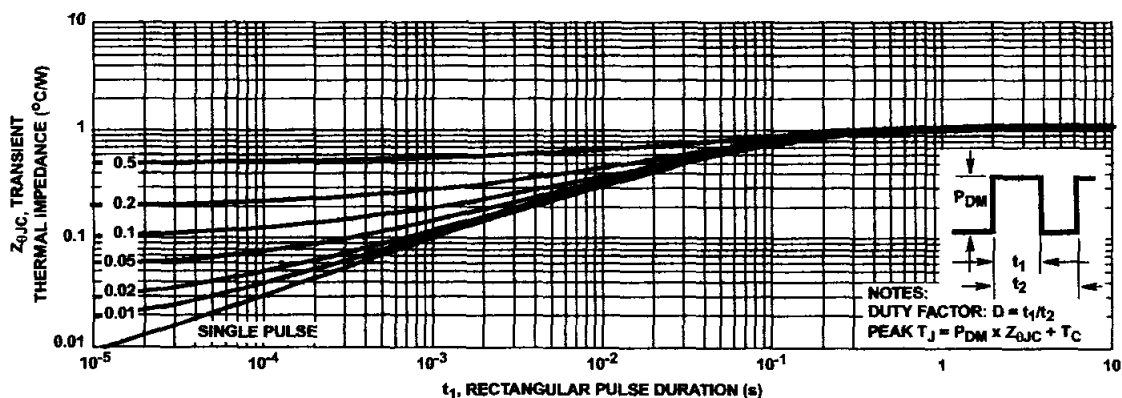

FIGURE 3. MAXIMUM TRANSIENT THERMAL IMPEDANCE
- 3. Repetitive rating: pulse width limited by maximum junction temperature. See Transient Thermal Impedance curve (Figure 3).